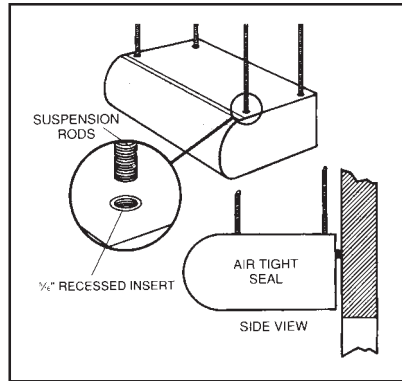

Figure 6
For top mounting suspension rods, four (4) factory installed 5/16" threaded inserts are located on the top of the unit. See Figure 6.